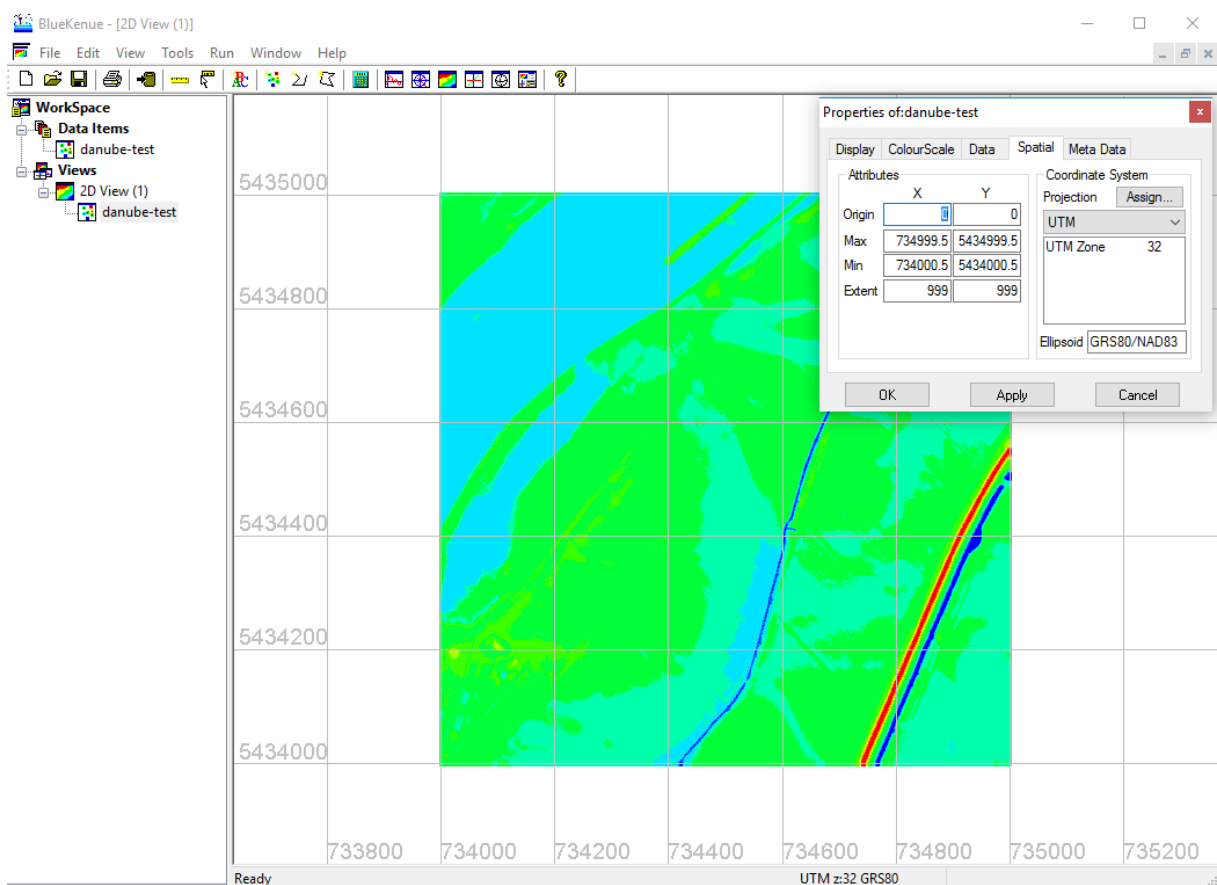

Figure 1: Verifying the DEM's CRS.
3. Then verify the CRS of the point cloud by right-clicking the DEM. Select “Properties...”, go to the “Spatial” tab, and make sure that BlueKenue™ correctly identified the CRS of your DEM (see Figure 1).